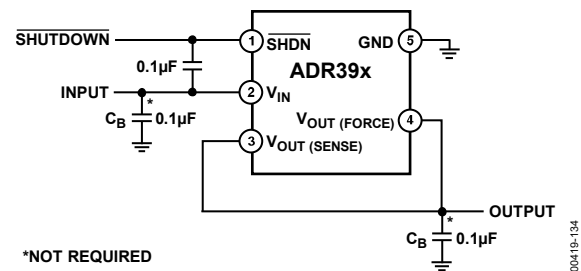

Figure 35. V_{IN} and \overline{SHDN} Capacitor
- Capacitor placed between V_{IN} and \overline{SHDN} as shown in Figure 35, or